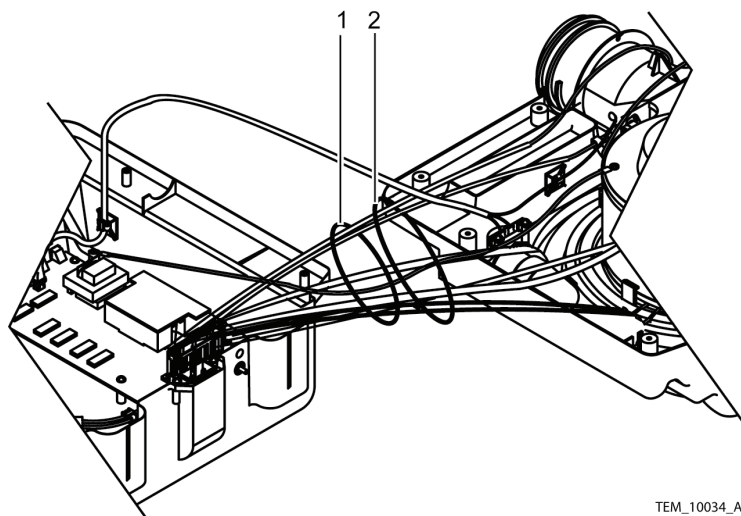

Figure 33. Cable Harness Bundle Ties
34. Install the cable harness bundle ties. See Figure 33.